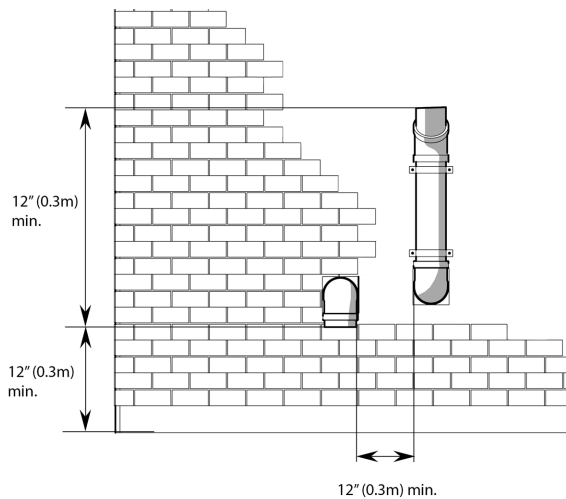
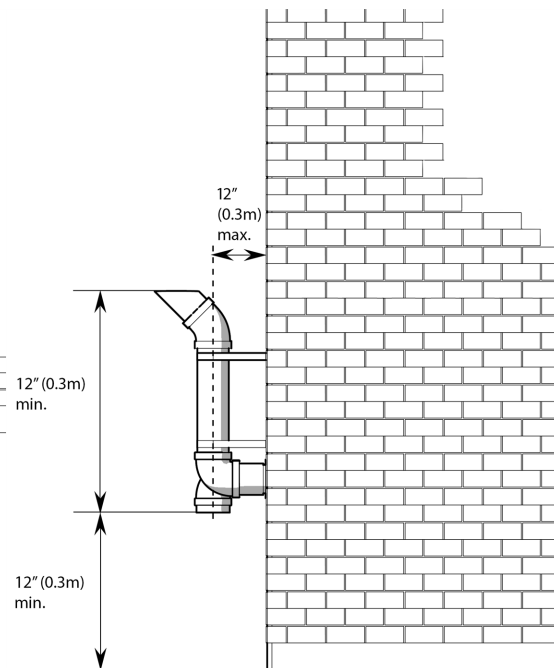
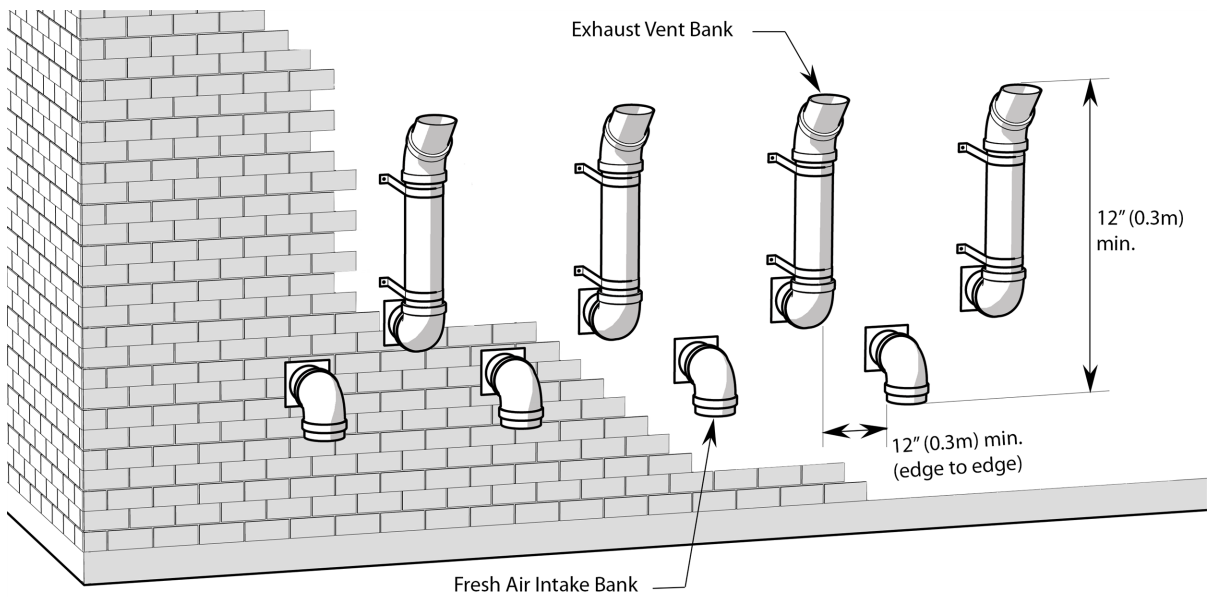
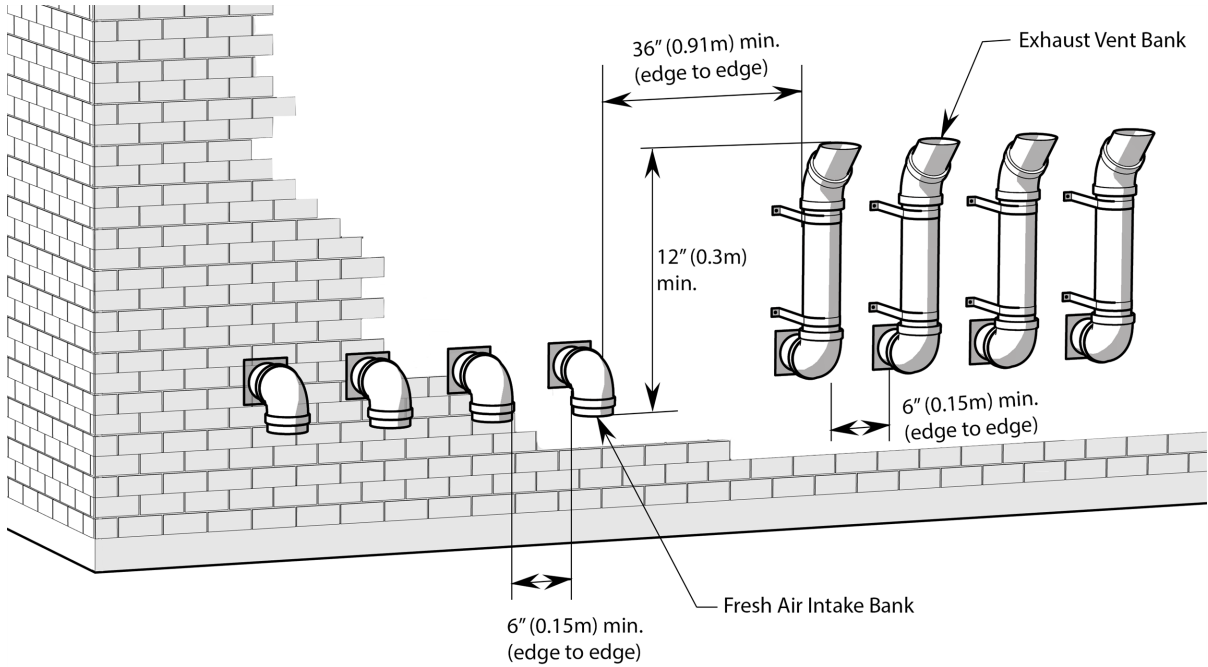

Figure 20 Vent termination clearance
Figure 21 Vent termination clearances
Figure 22 Sidewall vent termination configuration option 1
Figure 23 Sidewall vent termination configuration option 2
**Important!:** Maintain at least the minimum separation of exhaust vent termination from boiler intake air as illustrated in Figure 20, Figure 21, Figure 22 and Figure 23. Failure to do so can result in a dangerous situation where exhaust gasses are re-ingested with combustion air. Damage to the boiler can result from a failure to maintain these separations. Third party vent termination kits and concentric wall penetration kits that do not maintain these minimum separations must **not** be used. Improper installation will void the warranty. Do not use proprietary InnoFlue or PolyPro PPs terminals without specific approval from IBC.
- » (Optionally) Raise the elevation of both terminations in "periscope style" after passing through the wall, then to gain the required clearance configure as shown in Figure 20 , Figure 21 , and Figure 22 .
- » Use a 45° elbow on the exhaust termination to launch the plume up and off the sidewall (for protection of wall). A short piece of venting cut at 45° gives a horizontal termination protected from wind loads (see Figure 20 , Figure 21 , and Figure 22 ).